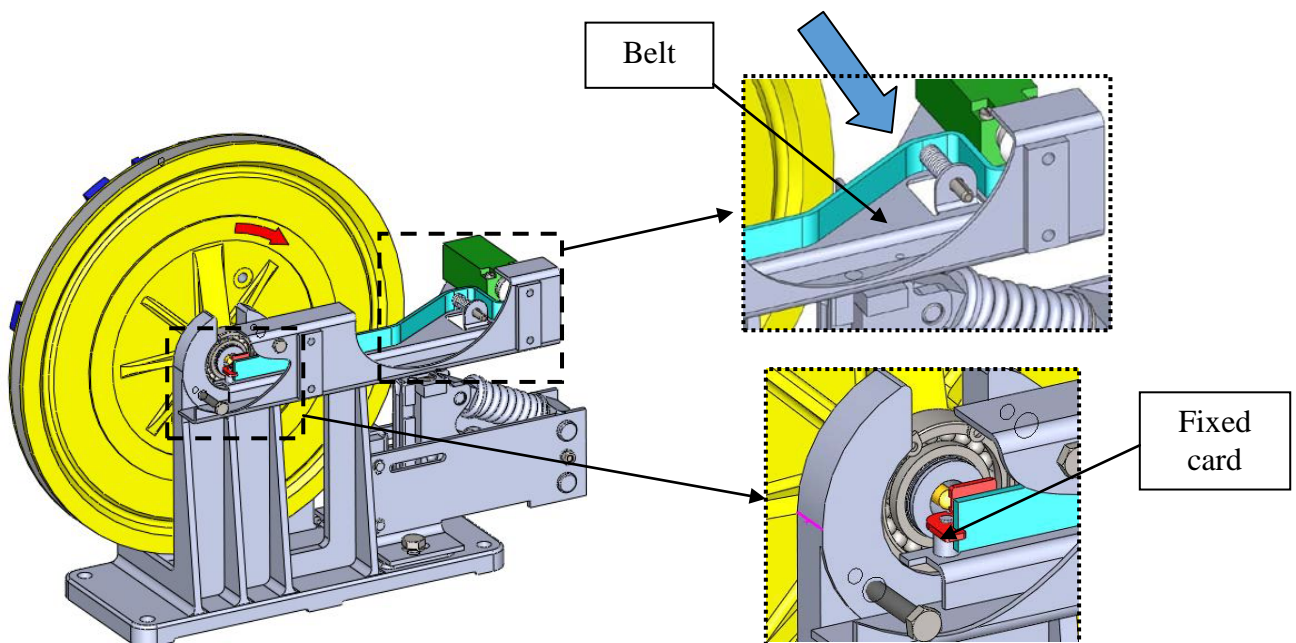

Figure 19
(1) Push the belt along the arrow direction as shown in Figure 19, so that the other end of the belt is fixed by a fixed card.
(2) Pull the electrical switch contact to close the electrical switch.